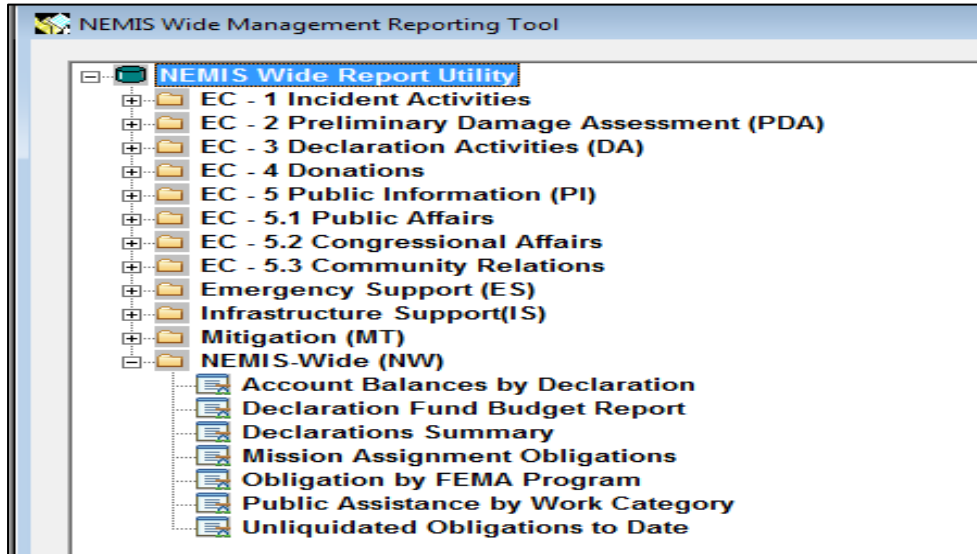

Figure 14-9: NEMIS-Wide Reports List
5. To generate a standard NEMIS-Wide (NW) report, complete Steps 5a – 5g.
- a. Double-click the Infrastructure (IS) folder. The list of NEMIS-Wide (NW) Reports is displayed (Figure 14-9).